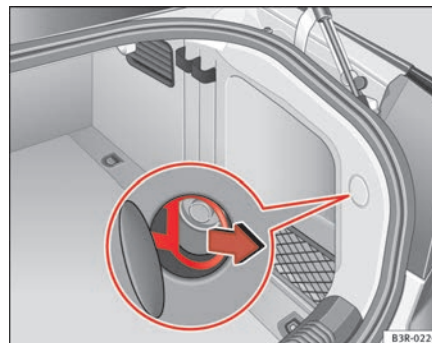

Fig. 161 Luggage compartment: Releasing the fuel tank flap by hand
- Pull the ring in order to unlock the fuel tank ⇒ fig. 161. ■